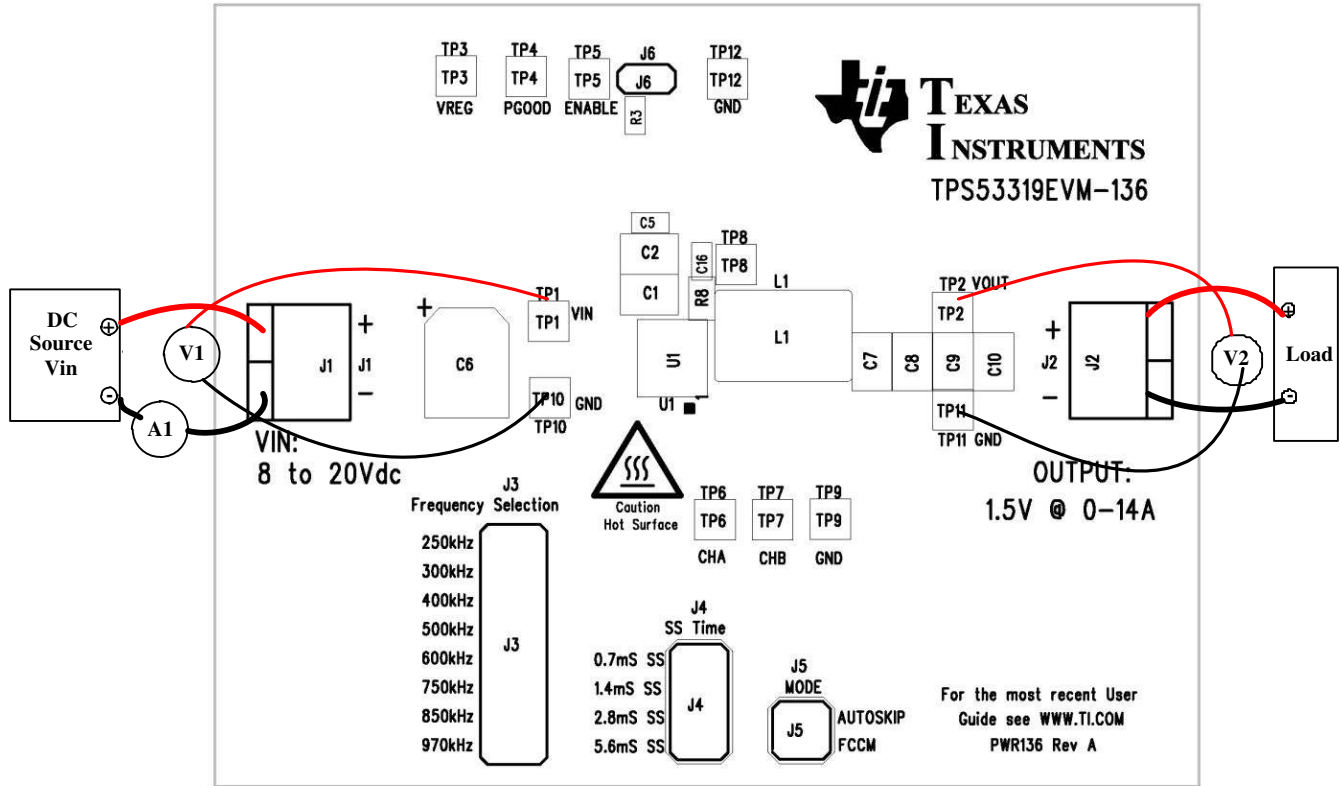

Figure 4-2. TPS53319EVM-136 Recommended Test Setup
The input voltage source, V_{IN} , should be a 0-V to 20-V variable DC source capable of supplying 10 A_{DC}. Connect V_{IN} to J1 as shown in Figure 4-2.
Figure 4-2 is the recommended test setup to evaluate the TPS53319EVM-136. Working at an ESD workstation, make sure that any wrist straps, bootstraps, or mats are connected referencing the user to earth ground before power is applied to the EVM.
1. Prior to connecting the DC input source V_{IN} , it is advisable to limit the source current from V_{IN} to 10-A maximum. Make sure V_{IN} is initially set to 0 V and connected as shown in Figure 4-2.
1. Set up EVM as described in Section 4 and Figure 4-2.